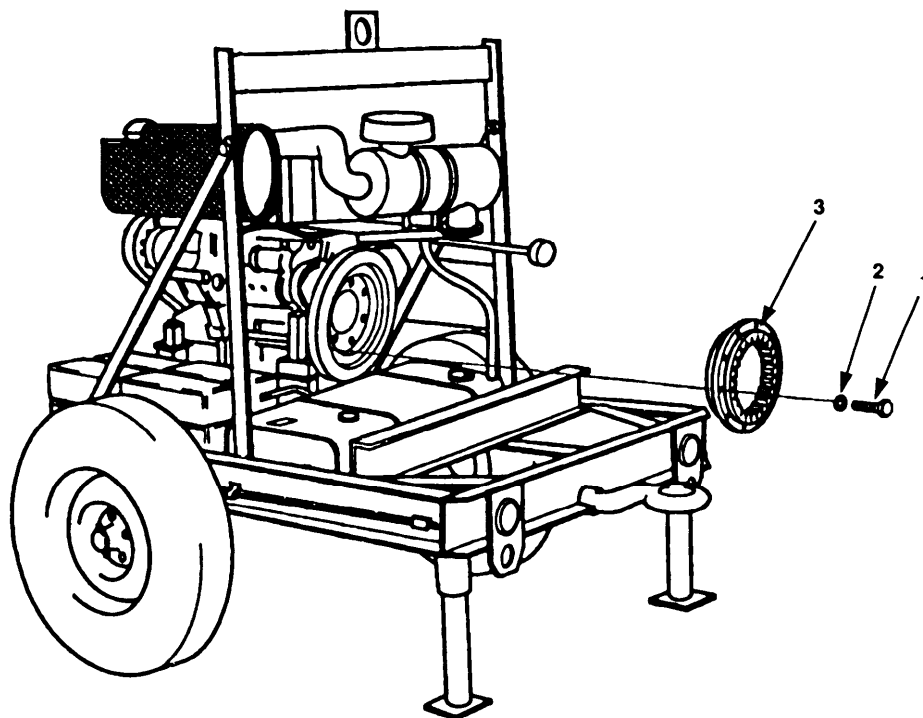

Figure 5-15. Coupling Flange Maintenance.
- a. Remove ten bolts (figure 5-15, 1) and lockwashers (2).
- b. Remove coupling flange (3).
- a. Hold coupling flange (3) against engine fly wheel.
- b. Install ten lockwashers (2) and bolts (1).